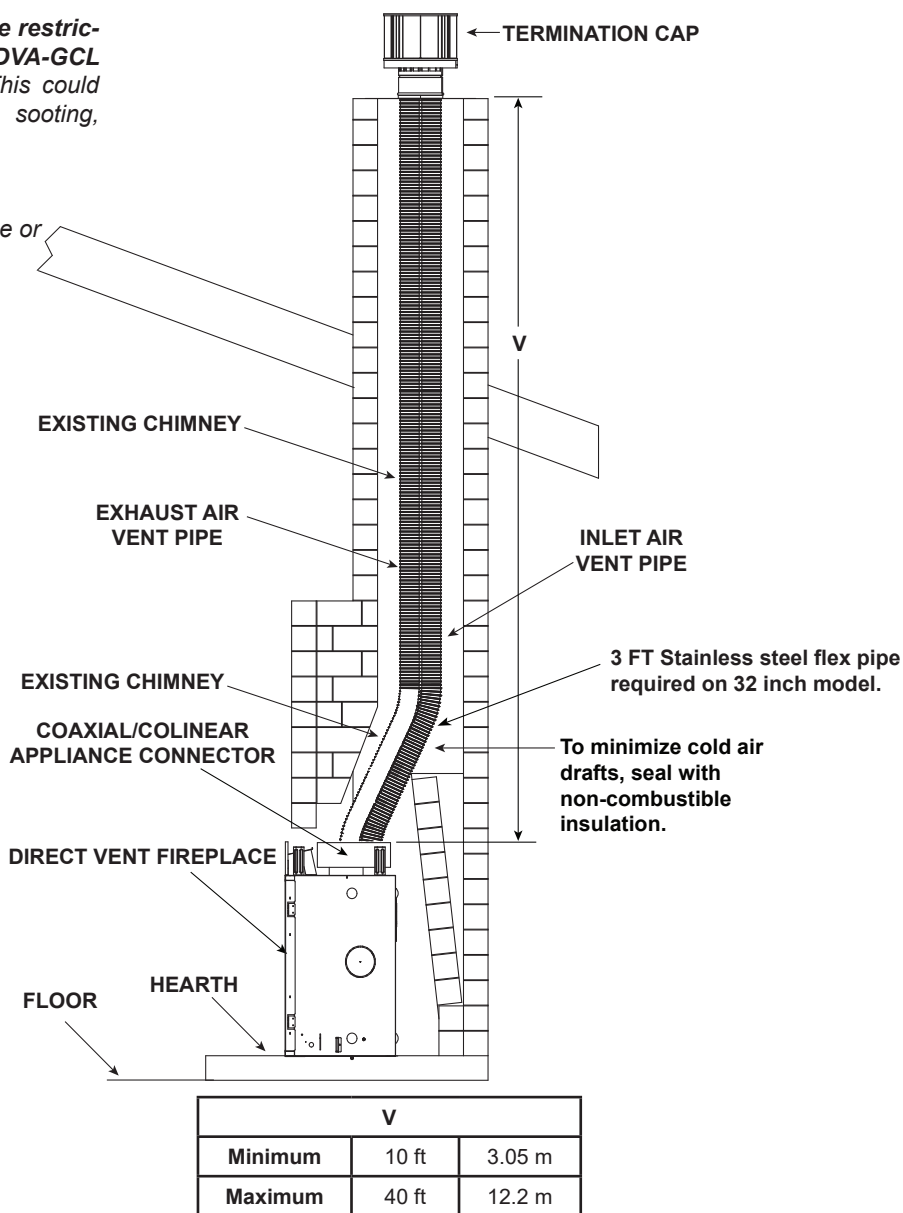

Figure 4.23
- Remove top seal cap and insulation if equipped. See Section 6, "Appliance Preparation." Attach the DV-46DVA-GCL adapter to the appliance starting collar with 3-1/2 in. self-tapping screws. See Figure 4.23.